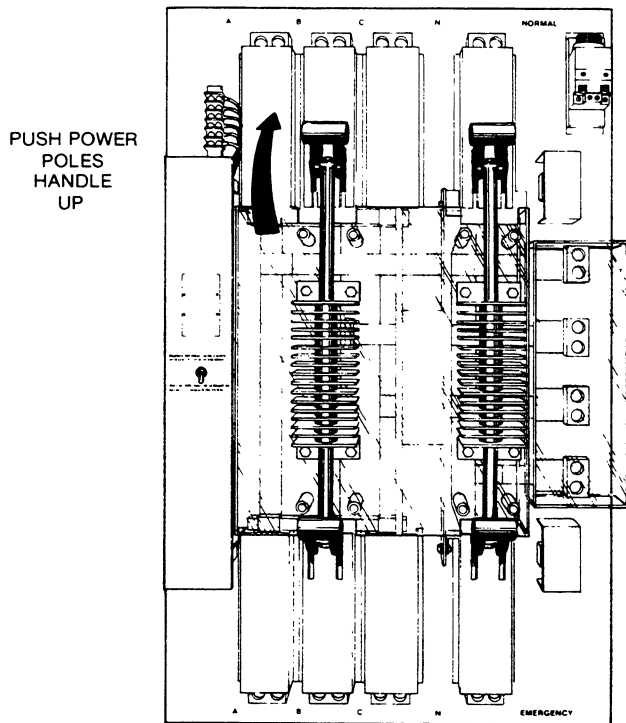

FIGURE 18.
3. Push the lower power pole handle up, as in Figure 18, connecting the load to the normal power source. This completes the manual retransfer switching sequence.